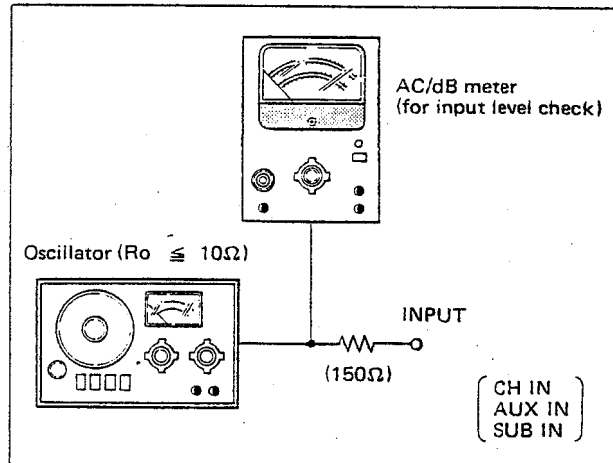

Fig. 1
- Connect an oscillator as shown in Fig. 1 for measurement.